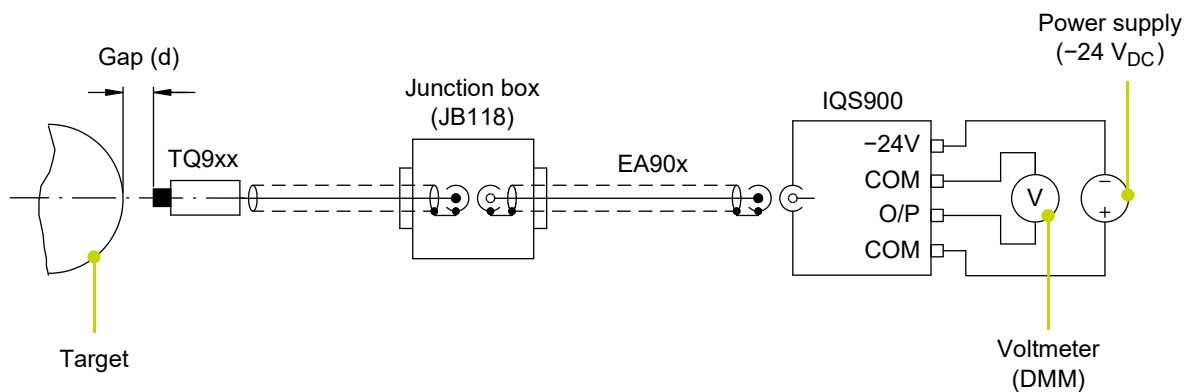

Figure 6-5: Characterisation for systems using voltage (3-wire) signal transmission
- 1- Connect a -24 V_{DC} power supply between the "-24V" and "COM" terminals of the IQS900 signal conditioner (see Figure 6-5).
- 2- Connect a voltmeter (DMM) between the "O/P" and "COM" terminals (see Figure 6-5).